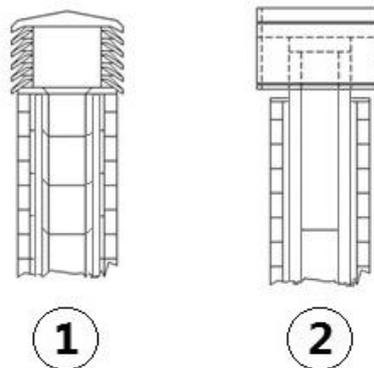

Fig. 4 - Anti-wind chimney pots
- We recommend using an anti-wind chimney pot, see **Fig. 4**.
- External chimney flue entirely made up of insulated stainless steel pipes, i.e. with double wall of minimum $\varnothing 100/120$ mm: all must be firmly attached to the wall. For chimney against wind effects please (see **Fig. 4**).